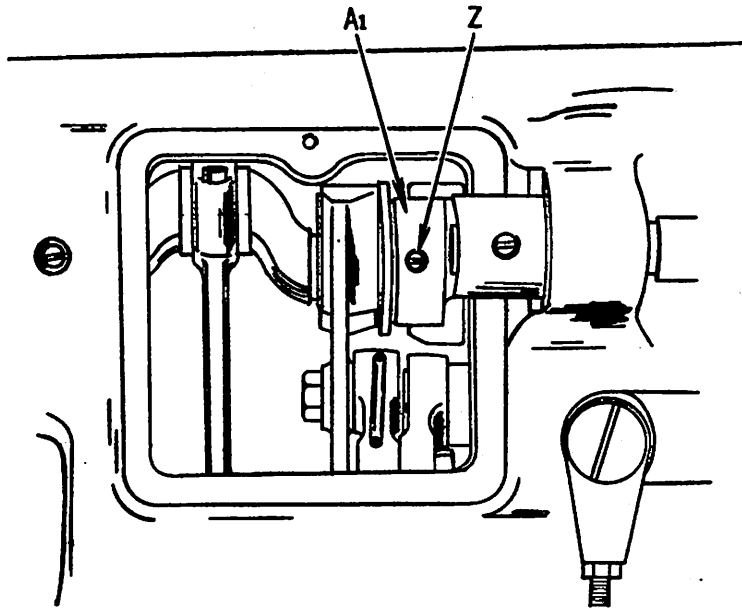

Fig. 21 Adjustment for Timing Feeding Mechanism
When it is necessary to time the feeding mechanism, press the thumb screw (C, Fig. 1, page 1) down to its lowest point for the longest stitch and remove the square cover plate at the back of the machine. Loosen the feed cam set screw (Z, Fig. 21) and turn the feed cam (A₁, Fig. 21) until the feed is correctly timed as instructed above, then securely tighten the set screw (Z).